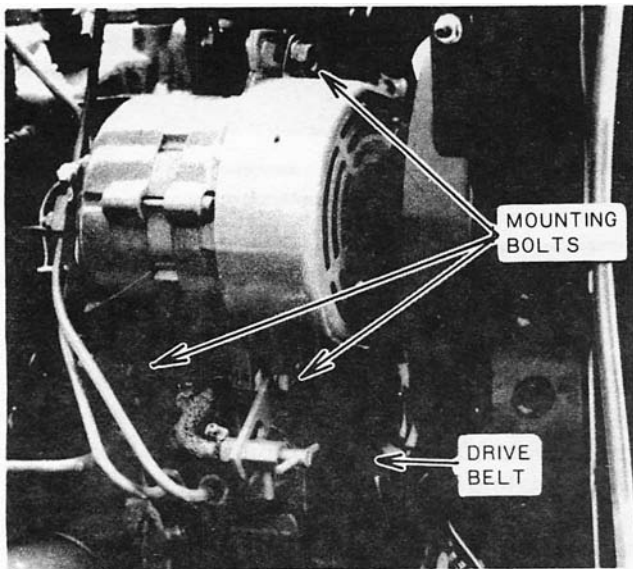

Figure 37 — Alternator Mounting Bolts
1. Loosen the alternator mounting bolts, Figure 37.